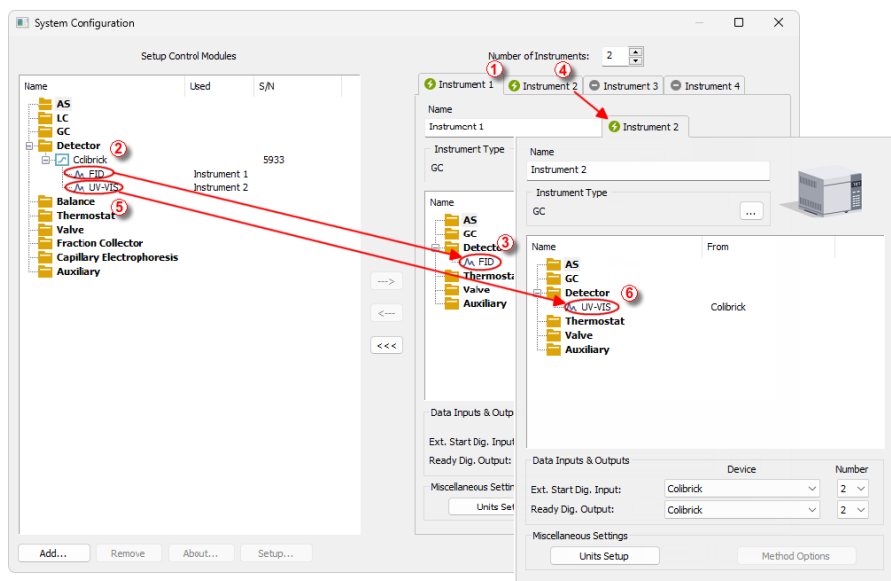

Fig 8: System Configuration – multiple instruments
Clarity allows to measure on multiple Instruments using a single **Colibrick** device, see **Fig 8** on pg 12. After you add the **Colibrick** to the *Setup Control Modules list*, select an Instrument you wish to use ① and drag the individual detector signal - **FID** ② to the selected Instrument ③. Then switch to another Instrument ④, select the **UV-VIS** signal ④ and drag it to another Instrument. The Instrument to which the particular signal is connected is listed to the right (② and ⑤) of the detector name in the *Setup Control Modules* section.